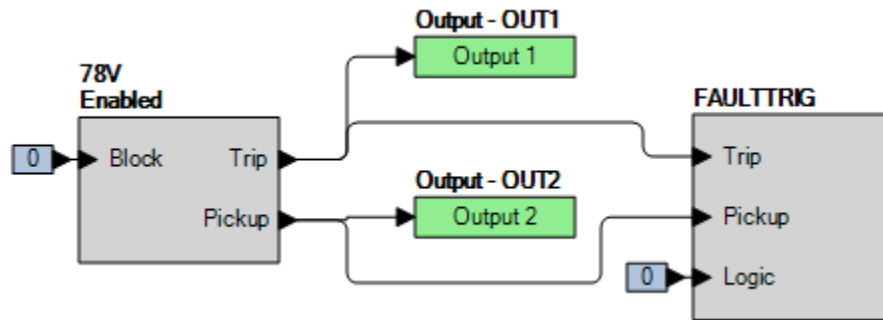

Figure 70-1. BESTlogic*Plus* Settings
Step 2: Use BESTCOMS*Plus* to configure the BESTlogic*Plus* programmable logic shown in Figure 70-1.
- Step 4: Prepare to monitor the 78V function operation. Operation can be verified by monitoring OUT1 (see Figure 70-1).